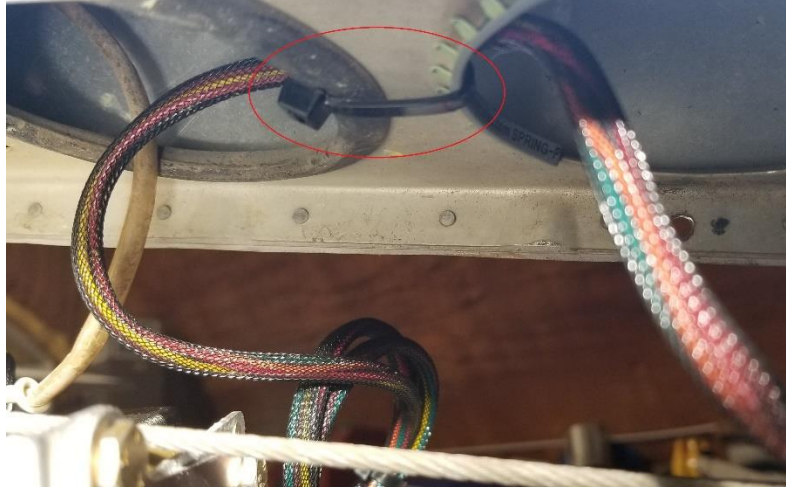

Figure 3-16
12. Route the Microfit cable (P/N 6000-064) through the lightning holes in the bottom of the vertical stabilizer as shown in figure 3-15. Secure the Microfit cable in the locations shown in Figure 3-16, 3-17, 3-18 with 4 MS3367-1-0 cable ties.